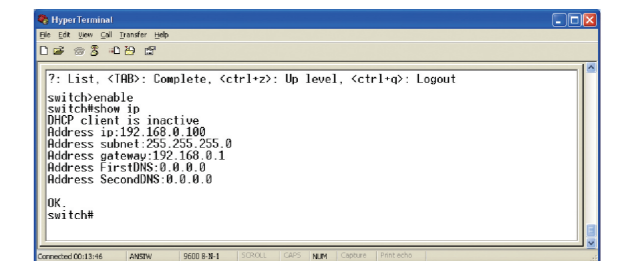

Figure 6-1 Show IP information screen
2. The screen displays the current IP address, Subnet Mask and Gateway. As show in Figure 6-1.